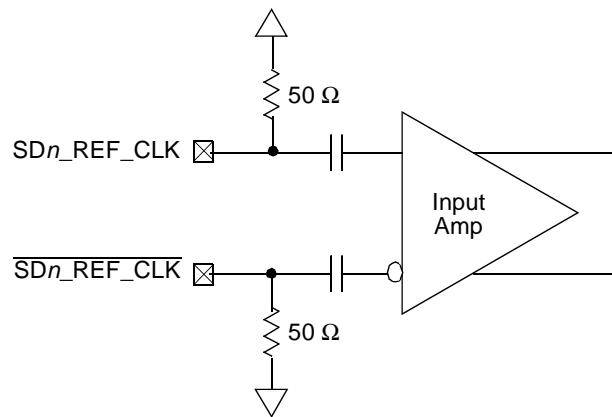

Figure 55. Receiver of SerDes Reference Clocks
Figure 55 shows a receiver reference diagram of the SerDes reference clocks.
- The  $\text{SD}n_{\text{REF\_CLK}}$  and  $\overline{\text{SD}n_{\text{REF\_CLK}}}$  are internally AC-coupled differential inputs as shown in Figure 55. Each differential clock input ( $\text{SD}n_{\text{REF\_CLK}}$  or  $\overline{\text{SD}n_{\text{REF\_CLK}}}$ ) has a  $50 \Omega$  termination to  $\text{SGND\_SRDS}n$  (xcorevss) followed by on-chip AC-coupling.